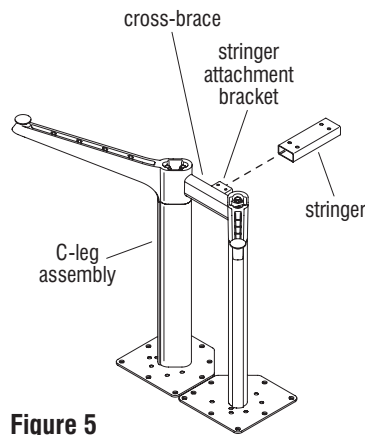

Figure 5
13. Start conference table base assembly with an end conference leg assembly (Figure 5).
14. Determine the proper size stringer to join conference leg assemblies together, referencing pages 6 & 7. Place the stringer onto the stringer attachment bracket on the conference leg assembly, making sure the mounting holes on the stringer are facing up (Figure 5 & Detail E).
1. Start C-leg table base assembly with one leg assembly first (Figure 5).
2. Insert the stringer onto the stringer attachment bracket on the C-leg assembly, making sure the mounting holes on the stringer are facing up (Figure 5 & Detail C).